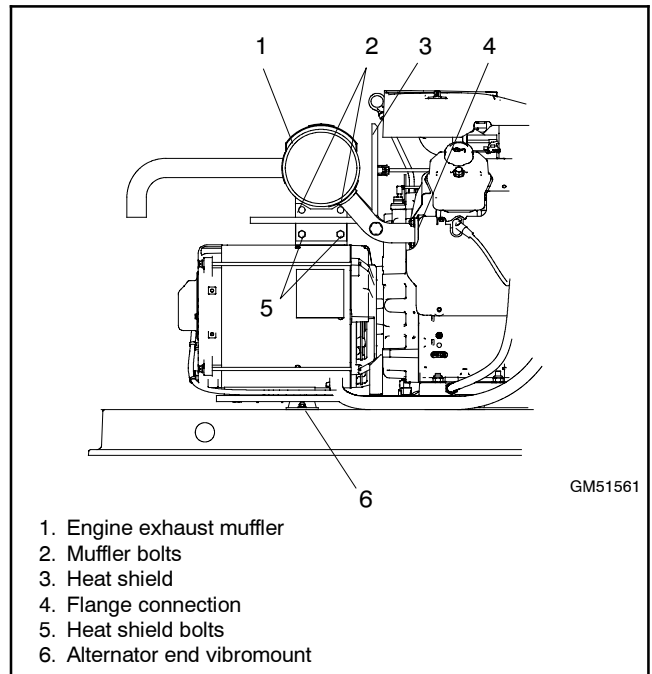

Figure 6-9 Muffler and Heat Shield
16. Remove the engine exhaust muffler and alternator heat shield. See Figure 6-9.
17. Remove the nuts securing the alternator end vibromount mounting plate to the skid. See Figure 6-9.